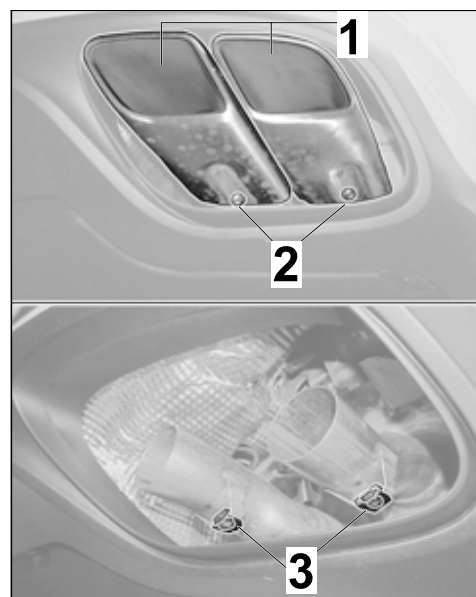

Figure 21 (Panamera Turbo)
3.2 Remove standard tailpipes (⇒ *Workshop Manual '263519 Removing and installing tailpipe cover'*, ⇒ *Figure 21 (Panamera Turbo)*).